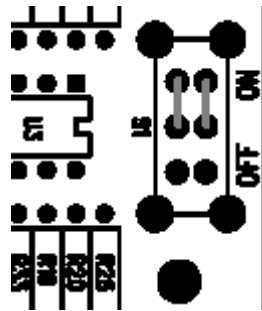

Figure 3. Jumpers for S1.
- ❑ Add jumpers to S1 switch location on phono board. See Figure 3.